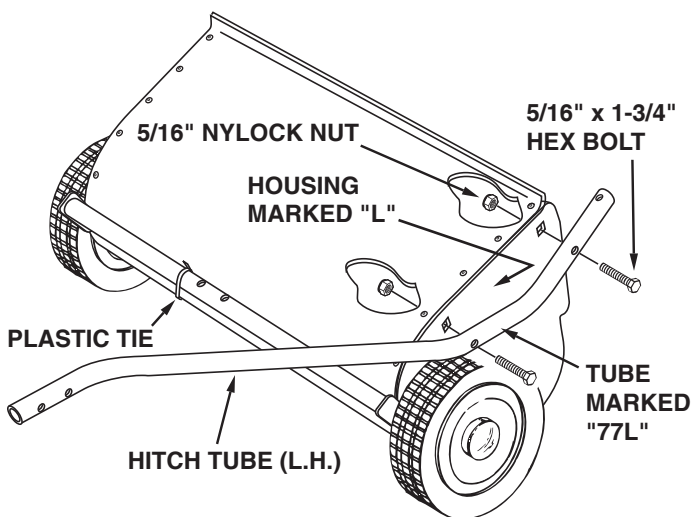
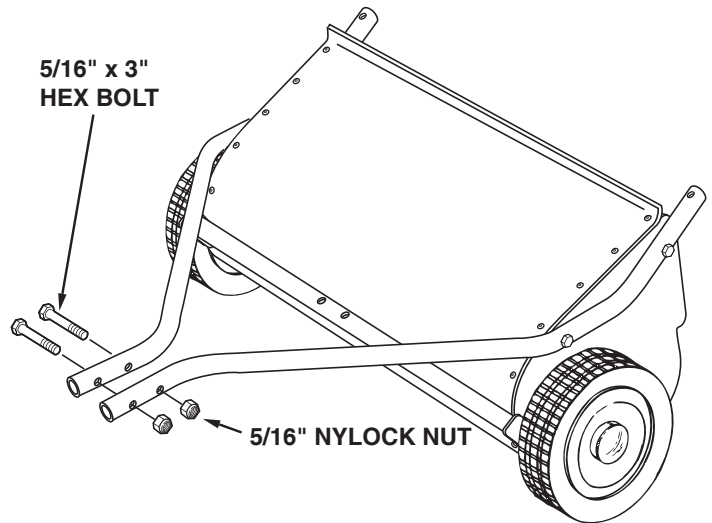
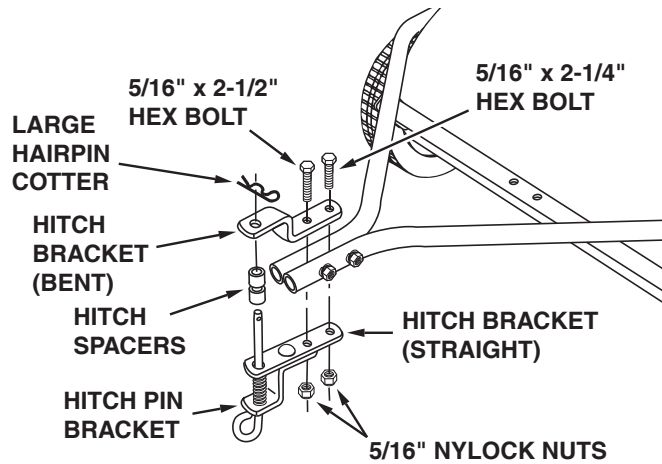

FIGURE 1
FIGURE 2
FIGURE 4
3. The hitch tubes are stamped with a "77L" for the left tube and a "76R" for the right tube. The sweeper housing is marked with an "L" on the left side and an "R" on the right side. See figure 1.
4. Hold the left hitch tube against the left side of the sweeper so that the "77L" on the tube faces away from the sweeper. Attach the hitch tube using two 5/16" x 1-3/4" hex bolts and 5/16" nylock nuts. Repeat for the right hitch tube, but with the "76R" facing in toward the right side of the sweeper. **Do not tighten yet.** See figure 1.
5. Remove the plastic tie that fastens the height adjustment tube to the front of the sweeper housing. See figure 1.
6. Fasten the hitch tubes together using two 5/16" x 3" hex bolts and 5/16" nylock nuts. **Do not tighten yet.** See figure 2.
10. Place the bent hitch bracket on top of the hitch tubes and place the straight hitch bracket with hitch pin underneath the hitch tubes. Fasten together using a 5/16" x 2-1/2" hex bolt (front), a 5/16" x 2-1/4" hex bolt (rear) and two 5/16" nylock nuts as shown in figure 4. The bolts should straddle the front hitch tube bolt. **Do not tighten yet.**
11. Assemble the two hitch spacers onto the hitch pin and secure the pin with the large hairpin cotter. See figure 4.
14. At this time **tighten** the four bolts in figure 1 that fasten the hitch tubes to the sweeper housing. Next, **tighten** the two bolts in figure 2 that fasten the ends of the hitch tubes together. Finally, **tighten** the two bolts in figure 4 or 5 that fasten the hitch brackets to the hitch tubes.